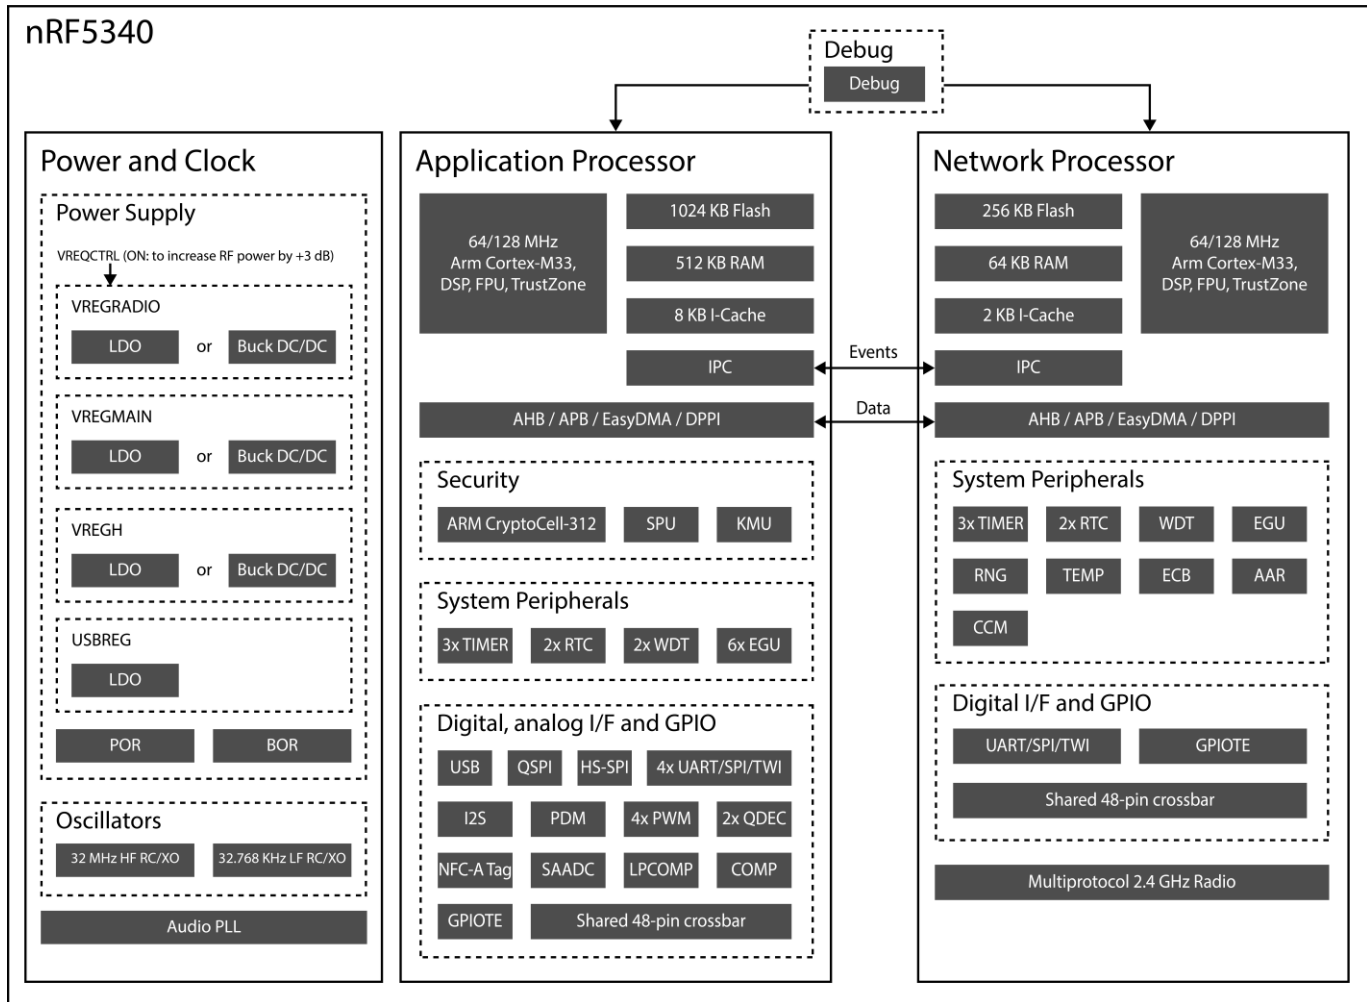

Figure 3: nRF5340 SoC SW block diagram (adapted from Nordic)
nRF5340 SoC (block diagram Figure 3) contains two processors:
- Security (Figure 3)
- System Peripherals (Figure 3)
- Digital, analog interfaces and GPIO (Figure 3)
- Digital interfaces and GPIO (Figure 3)
- Radio (Figure 3)